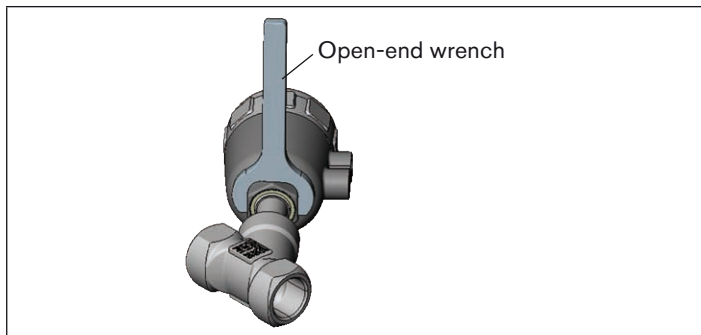

Fig. 19: Place open-end wrench on the hexagon
- Place a suitable open-end wrench on the hexagon of the actuator (see *Fig. 19:*).